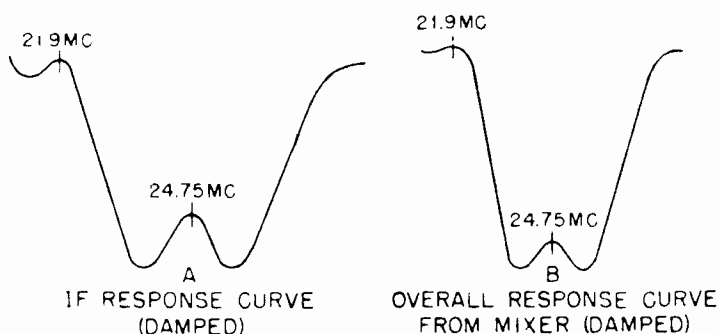

FIGURE 7. IF AND MIXER RESPONSE CURVES (DAMPED)
4. Through a 47Kohm decoupling resistor, connect the oscilloscope across the video detector load resistor R-19 (5600), which may be reached from pin #3 of test receptacle. If a stronger output is required, connect the scope between picture tube cathode (yellow lead) and chassis. The curve seen at this position will be the reverse of the polarity shown in Figure 7.